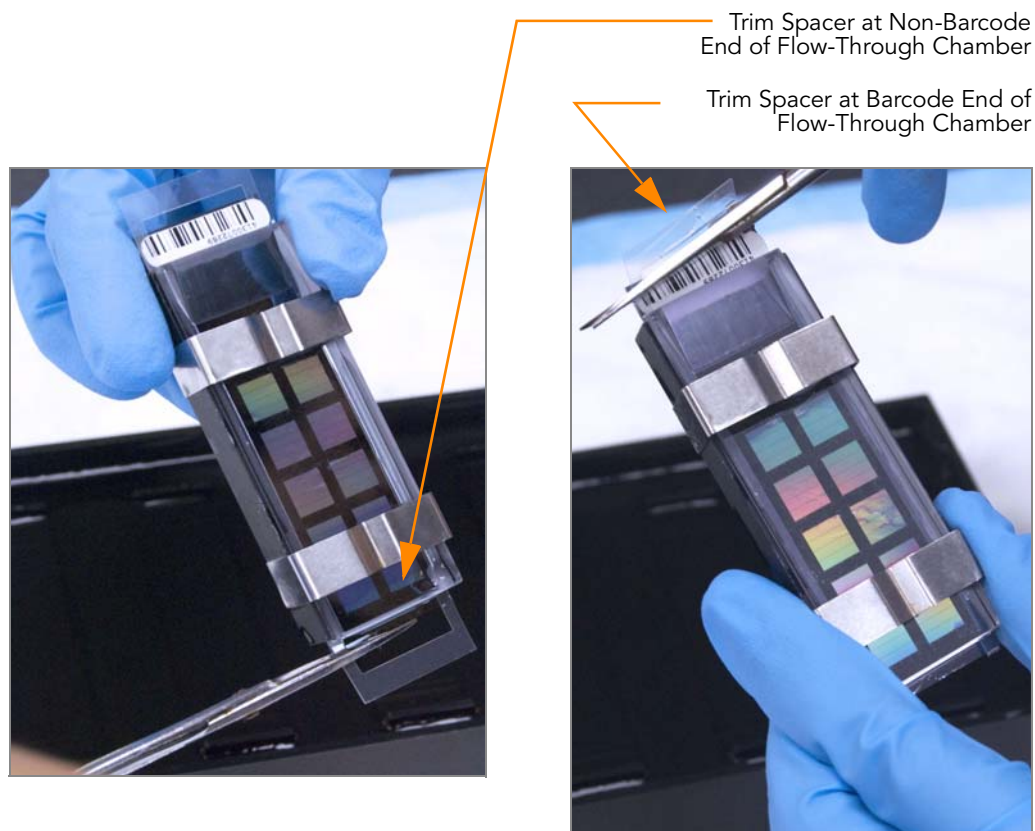

Figure 57 Trimming Spacer Ends from Flow-Through Chamber Assembly
9. Using scissors, trim the ends of the clear plastic spacers from the Flow-Through Chamber assembly (Figure 57):